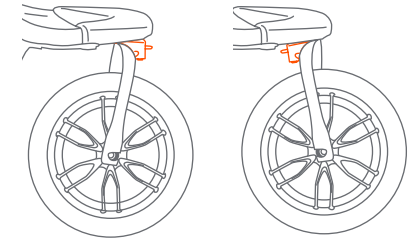

Fig. 15a
- 15) • The front wheel is equipped with a swivel locking device and engage in front or back (Fig. 15a).